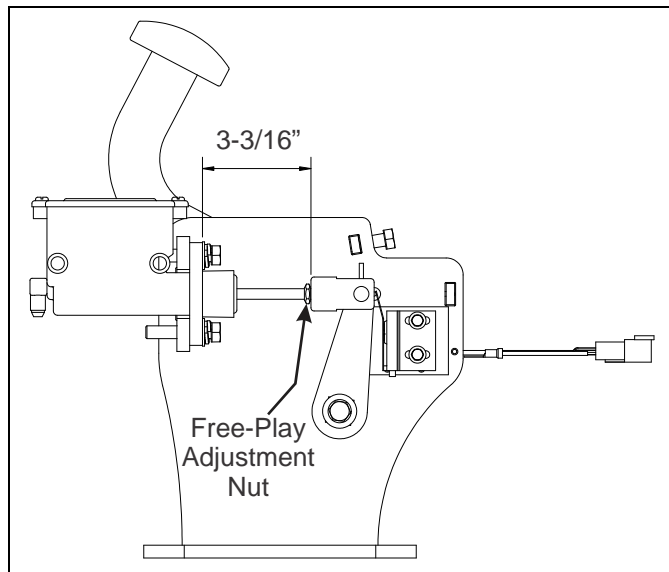

Figure 3-24: Brake Linkage
5. Loosen the 5/16" free play adjustment nut on the master cylinder push rod. See Figure 3-24.
6. Turn the rod clockwise to increase dimension on the pedal; turn counterclockwise to decrease dimension. See Figure 3-24. For free play adjustment dimension.
6. Slide the brake switch forward or backward to locate the switch at this position - to engage immediately as the pedal begins its downward stroke. See Figure 3-24.